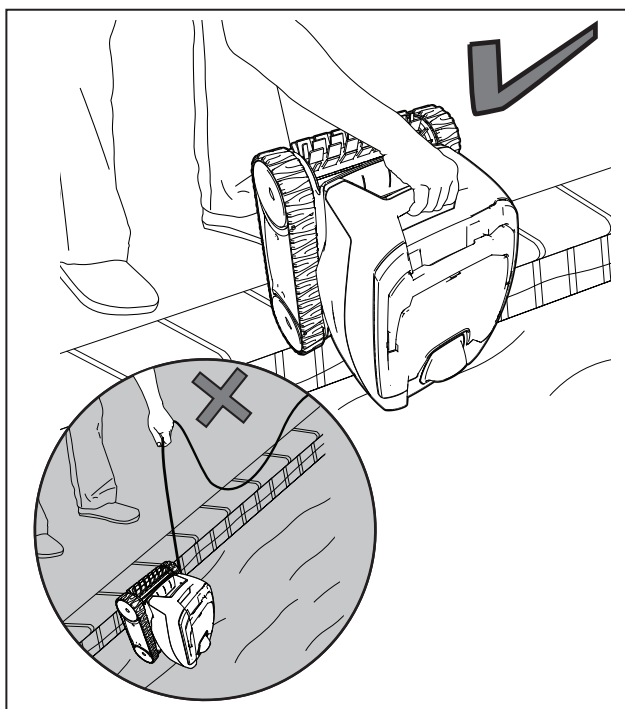

Figure 5. Lift Cleaner From Pool with Handle
2. When the cleaner is within arm's reach, use the handle to lift it from the water (Figure 5). Never lift the cleaner out of the pool by the floating cable.